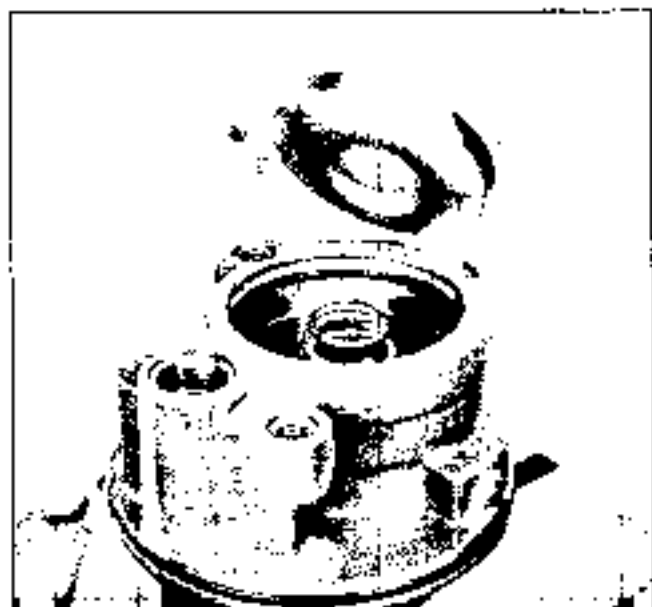

Fig. 9-74 Removing End Plate
6. Remove end plate and spring. End plate is spring-loaded and will generally sit above the housing level. If sticking should occur, a slight tapping action will free the plate (Fig. 9-74).